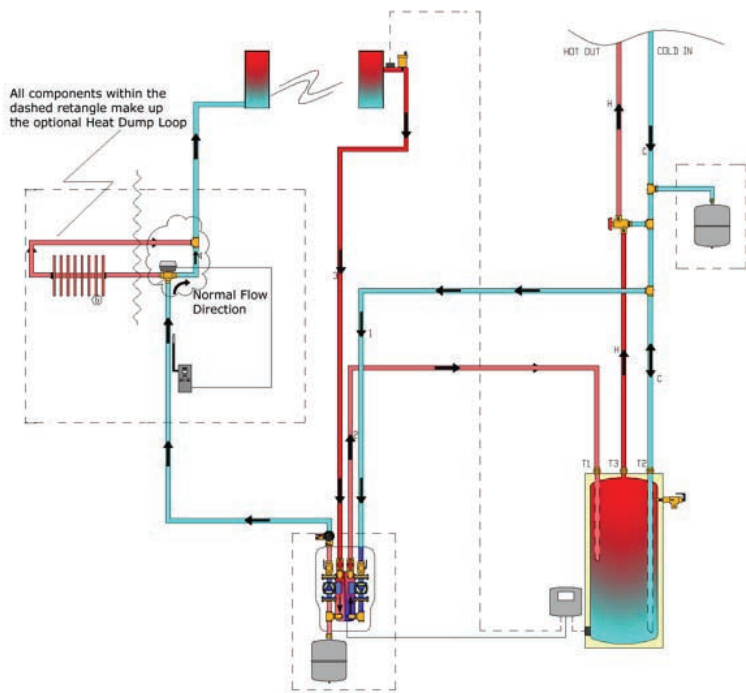

Figure 1 Glycol loop with heat exchanger
In an effort to combat the damage caused to flat plate collectors by freezing, the industry adopted two solutions: using glycol antifreeze as the heat-transfer fluid (see Figure 1) or installing drainback systems to drain the exposed panels and piping of water during cold weather. It is essential to use one of these options when installing flat panel collectors, or the system inevitably will freeze at some point (unless the project is located in the tropics, of course). It is not practical to circulate hot water through such systems, since the heat loss from flat panels is prohibitive and would extend the payback beyond the design life of the collectors.
- Glycol fluids require closed-loop piping systems (see Figure 1). This means that the heat from the solar loop must be transferred to the potable water system, usually through a double-wall heat exchanger and dual pumps or through double-wall heat exchanger bundles in storage tanks. Besides the higher costs associated with the extra components, the biggest issue is maintaining pressure in the closed loop. If any leak occurs in the glycol loop, then the pressure soon will drop to zero, which will cause overheating at the collectors, pump failure from cavitation, and overheating of the glycol. If a glycol system is used, low-pressure alarms should be installed to notify operations personnel of loss of pressure so immediate action can be taken. Maintenance personnel